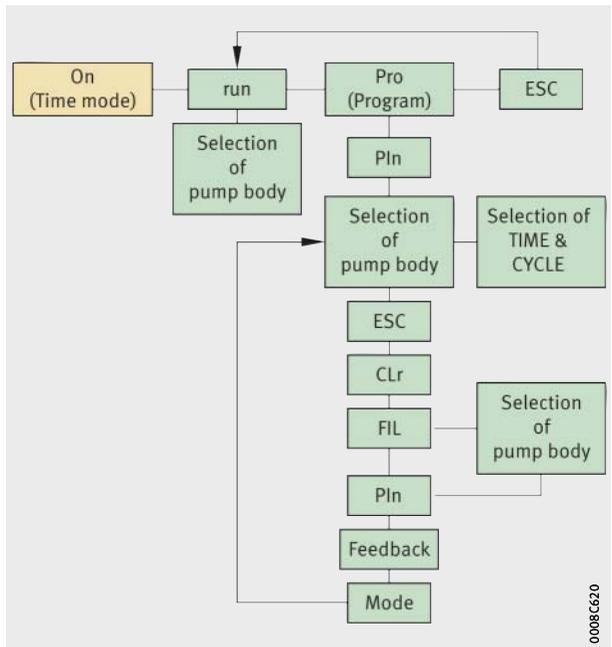

Figure 15
- time control (time mode) by means of the integrated micro-controller (default setting), *Figure 15*